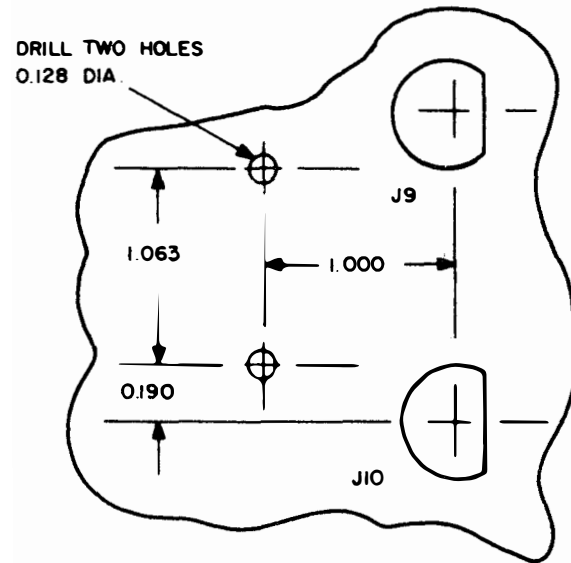

Figure 2-7. Exciter No. 2 Relay Bracket Details
m. Fabricate a small bracket according to the instructions contained in figure 2-7, to mount relay 1A2K2 and 1A2CR2. Drill two holes in the rear of the case next to connector 1A2J9 for mounting the bracket, as shown in figure 2-7. Mount the relay to the bracket, installing the ground lug under one of the screws convenient to the relay terminals.
c. Fabricate a two wire cable using #22 AWG stranded insulated wire, for the keyline and ground connections. For the termination at AM-3924(P)/URT, use one of the types of connectors listed for plug P8 (to mate with connector 1A2J8). On P8, wire the keyline to pin F and the ground termination to pin A. Then use a short length of buss wire to short terminal D to terminal B on the connector (figure 2-7). Refer to the exciter no. 2 technical manual for cable terminations at that end.